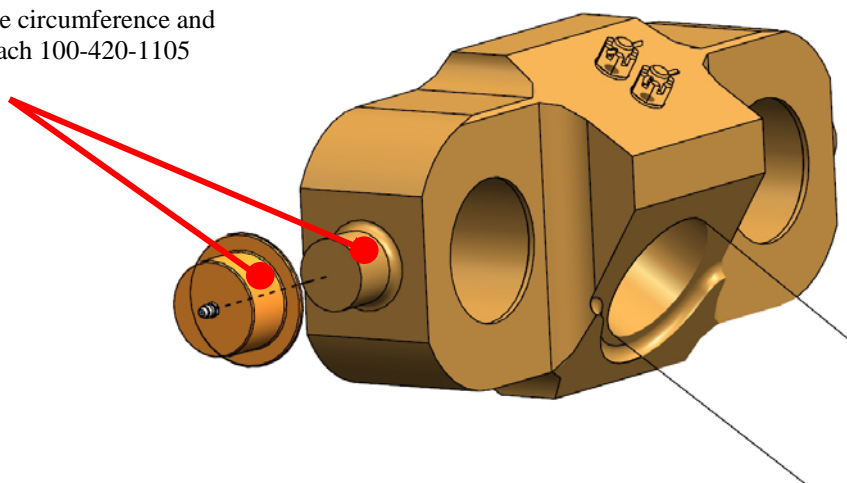

Figure 5-3: Bushing Grease Locations
2. Using Aeroshell Grease, 22 or equivalent, grease all interior surfaces of the four (4) Main Landing Gear Trunnion Pin Bushings (P/N 100-420-1105) prior to installation onto trunnion. Reference **Figure 5-3**.
4. Coat the exterior surfaces on the four (4) Bushings and the mating surfaces on the aircraft structure prior to installation into the aircraft structure. Reference **Figure 5-3**.